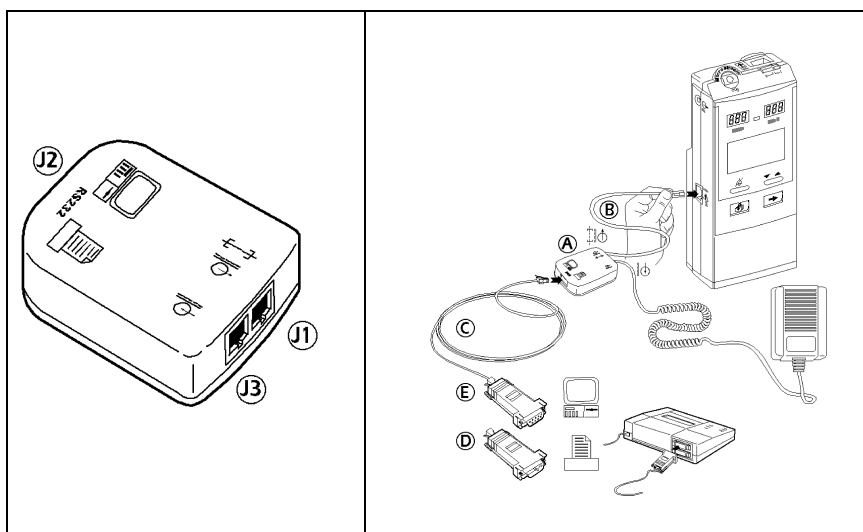

Figure 5. Connecting the Monitor with an Output Device using the AC Adapter
2. Connect the medical grade AC Adapter to the Communication Adapter input port (J3), as seen in Figure 5, below.